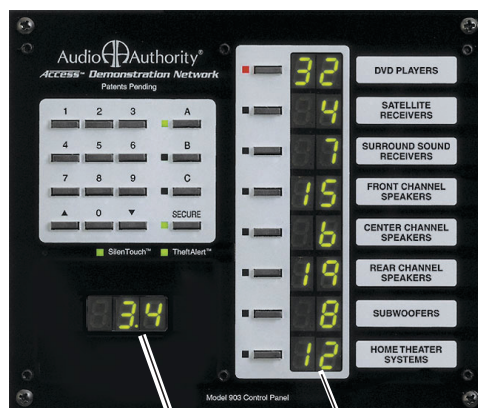

Figure 4.
- Make a note of the last group number displayed in the Product Group windows and the module number shown in the Info Display find the two modules that both have this address. For example, if the control panel is flashing, the Info Display shows 002, and the third Product Group window shows S4, you would look for two speaker modules (932) with the same address of “Group 4, Module 02, Right.”
- As each new group number appears in a PG window (*Product Group, Figure 4*), the Info Display counts up the number of modules in that group that can be recognized. Write down the highest number reported in the Info Display and the Group number with it. For each group, compare the reported module tally with a physical count of the modules.